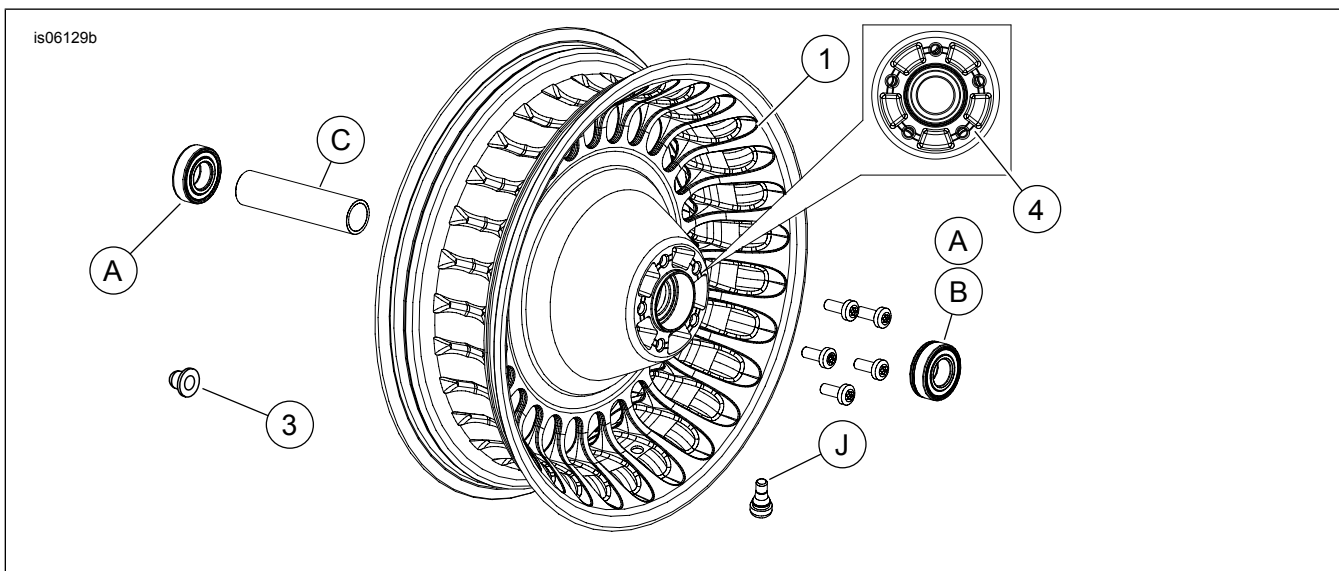

Figure 1. Service Parts: Rear 28-Spoke Wheel (16 inch shown)
See Figure 1 and the Service Parts Tables.
2. See Figure 1. Install valve stem assembly (J) on wheel. Refer to the service manual.